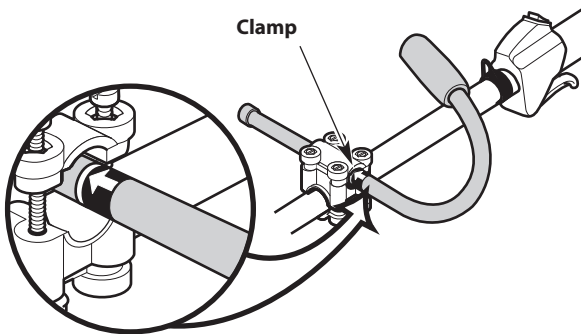

Fig. 6
6. Hold the unit in the operating position (Fig. 13) and slide the handle in or out of the clamp until the arrow/line on the decal touches the clamp (Fig. 6).